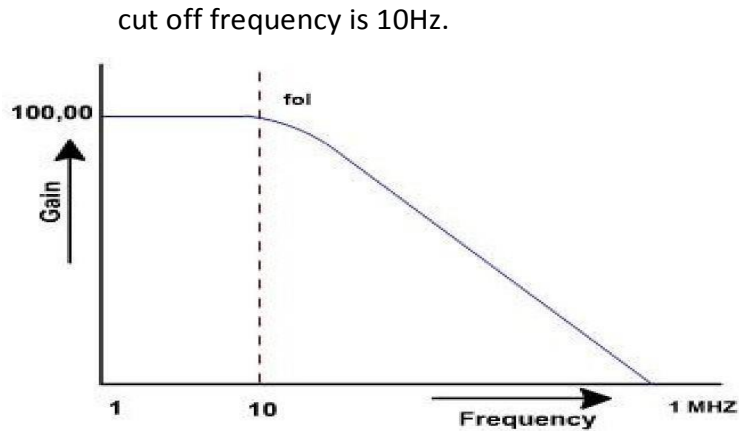

Fig.1.24 Band width of OP-AMP
1.32.1 From open loop gain vs frequency graph At 1 MHz shown in fig.1.24, it can be found 1 MHz for the 741C OPAMP frequency the gain reduces to 1. The mid band voltage gain is 100,000 and